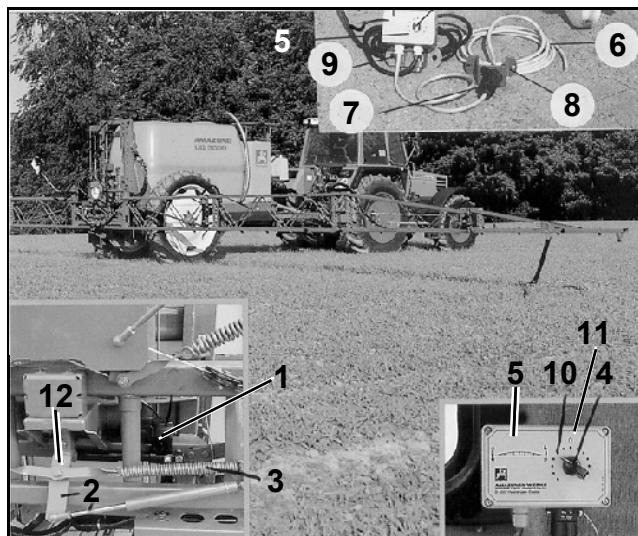
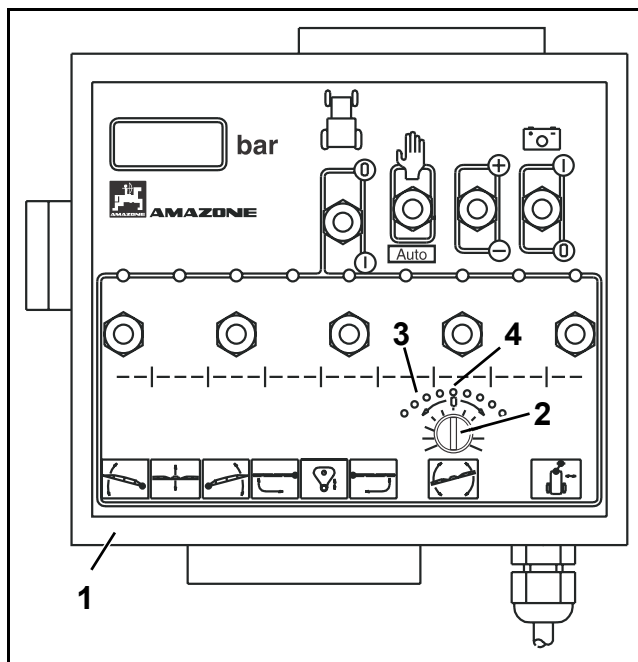

Fig. 63
Fig. 64
• Electric boom tilting can only be conducted with the nut (Fig. 63/12) slackened on the swivel arm and when the swing compensation is unlocked.
- Turn the setting knob (Fig. 63/4 or Fig. 64/2) of the boom tilt adjustment with the boom fully folded out. The individual points on the scale represent pre-determined angle of boom tilt.